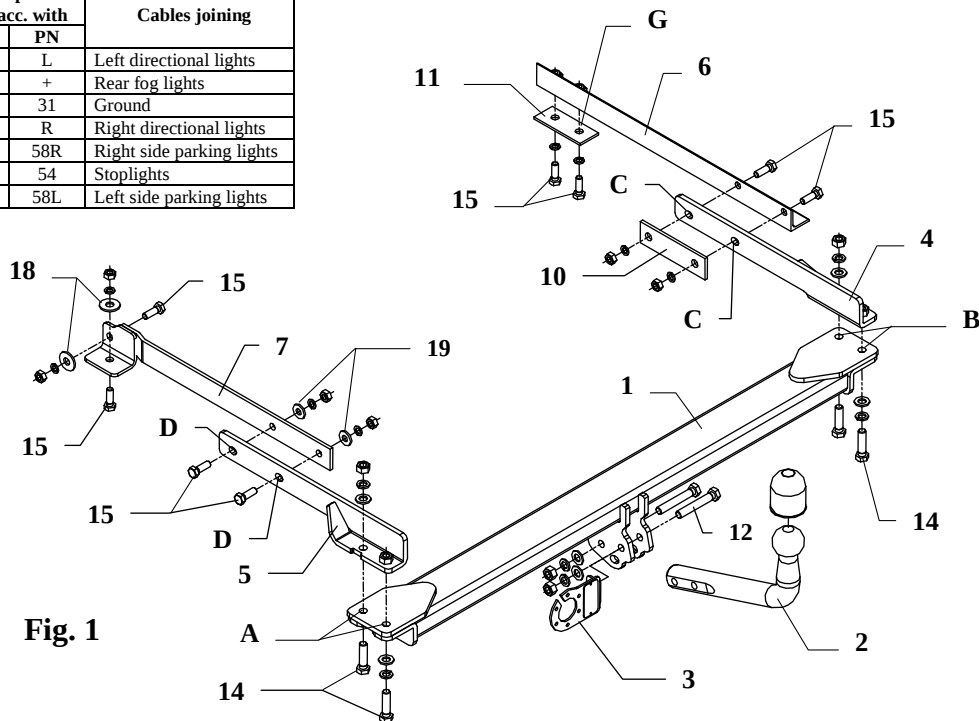

Fig. 1
3. To the left and right recess (channel) inside trunk put side brackets (pos. 4 and 5) next using bolts M12x45mm from accessories (pos. 14) fix through made holes pos. A and B with main bar of the towbar (pos. 1). Main bar apply underneath a car.
4. Fix right arm (pos. 6) – remove rubber plug underneath chassis member in place where longitudinally member touch transversely member, – put right arm (pos. 6) inside trunk in this way, so holes C in bracket pos. 4 agree with holes in right arm pos. 6. Fix using fish-plates (pos. 10 and 11). In point G, through fish-plate drill hole $\varnothing 11\text{mm}$, then fix using bolt M10x30mm (pos. 15) as shown in the figure 1.
5. Fix left arm (pos. 7) – remove rubber plug as on the right side (see point 4) and additionally:
- through holes (pos. D) of bracket (pos. 5) drill holes $\varnothing 11\text{mm}$,
- underneath a car through just made holes fix left arm by bolts M10x30mm (pos. 15),
- through rest two holes of left arm (pos. 7) drill holes $\varnothing 11\text{mm}$ and fix it by bolts M10x30mm (pos. 15) as shown in the figure 1.
8. To mounted main bar of the towbar fix tow ball (pos. 2) together with socket plate (pos. 3) using bolts M12x75mm (pos. 12) and M12x70mm (pos. 13) from accessories.